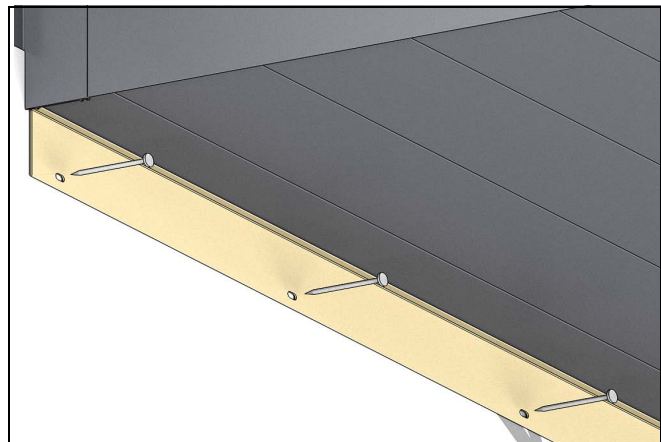

Figure 42
9. Install wall flashing flange profile by rolling it into modular base profile closest to the wall. Use 2" (51) roofing nails to fasten to the wall. See Figure 42.